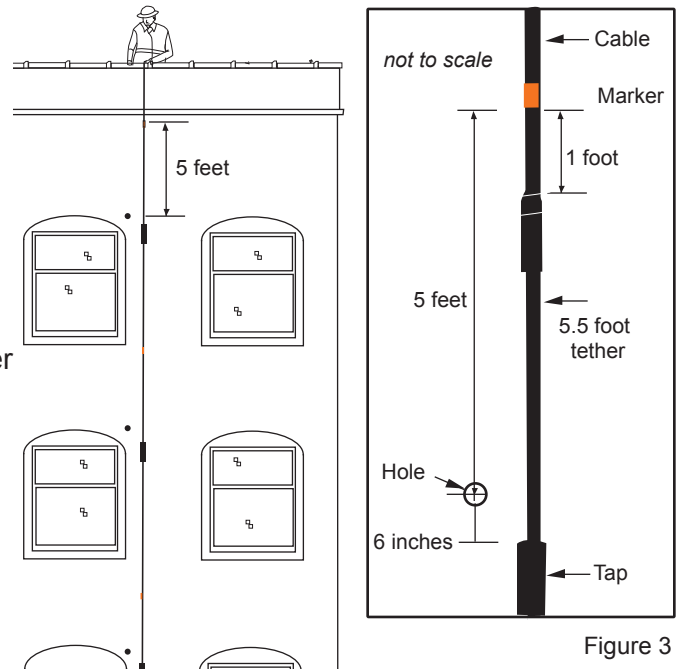

Figure 3
5.4 With guidance from the ground-level technician, align the markers 5 feet above the hole drilled for the tether or the top of the hallway window, at the corresponding floors (Figure 3).
6.2 Since the tether will enter from the outside of the building into the hallway, a 3/4-inch hole will need to be drilled near the top corner of the window. The recommended location is in-line with the cable path and just above the top of the window (see Figure 3).